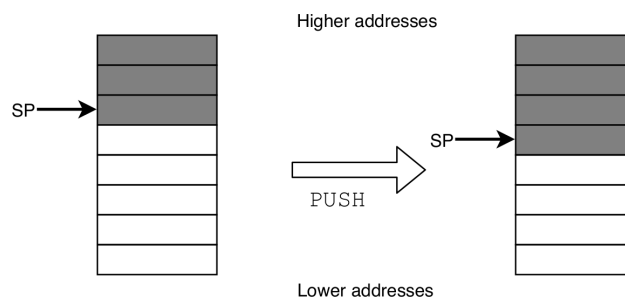

Figure 10.1: Stack push: before and after (Full Descending stack model)
It is recommended (though not compulsory) that the stack model known as “full descending” is used (figure 10.1). In this model the Stack Pointer (SP) contains the address of the last item pushed, and subsequent ‘pushes’ store data in lower-numbered addresses.